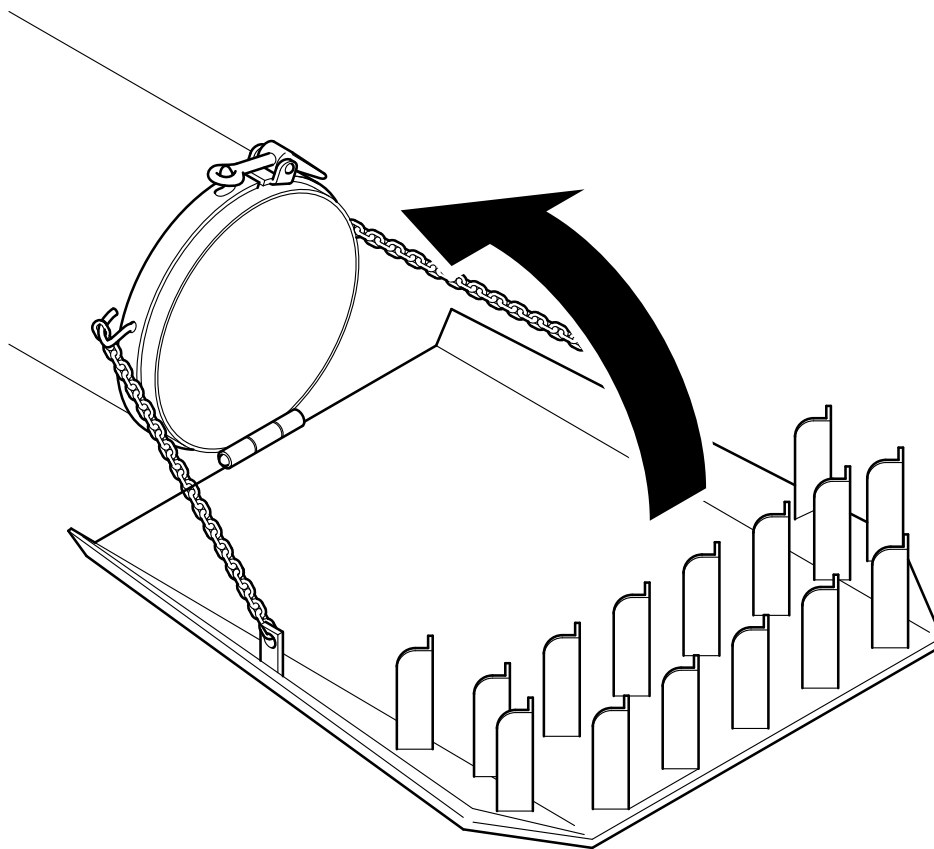

Fig.14.1
3. Put the flow protection diffuser in the transport position attaching it with the appropriate hooks (fig. 14.1).